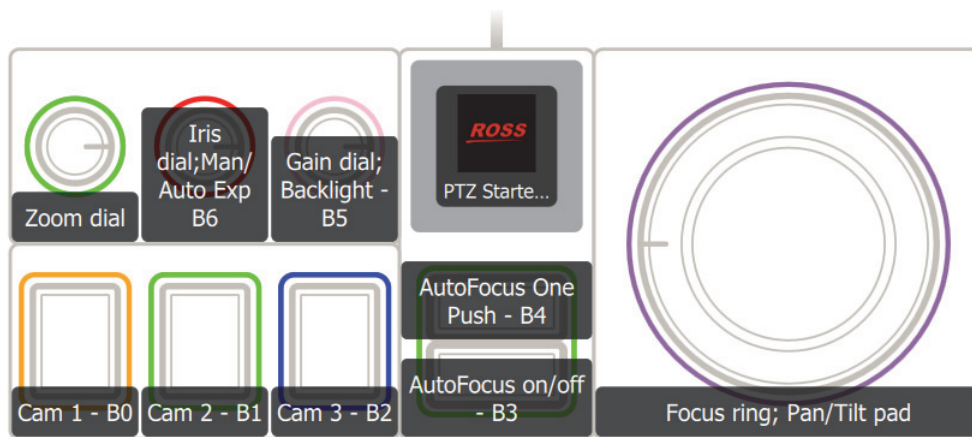
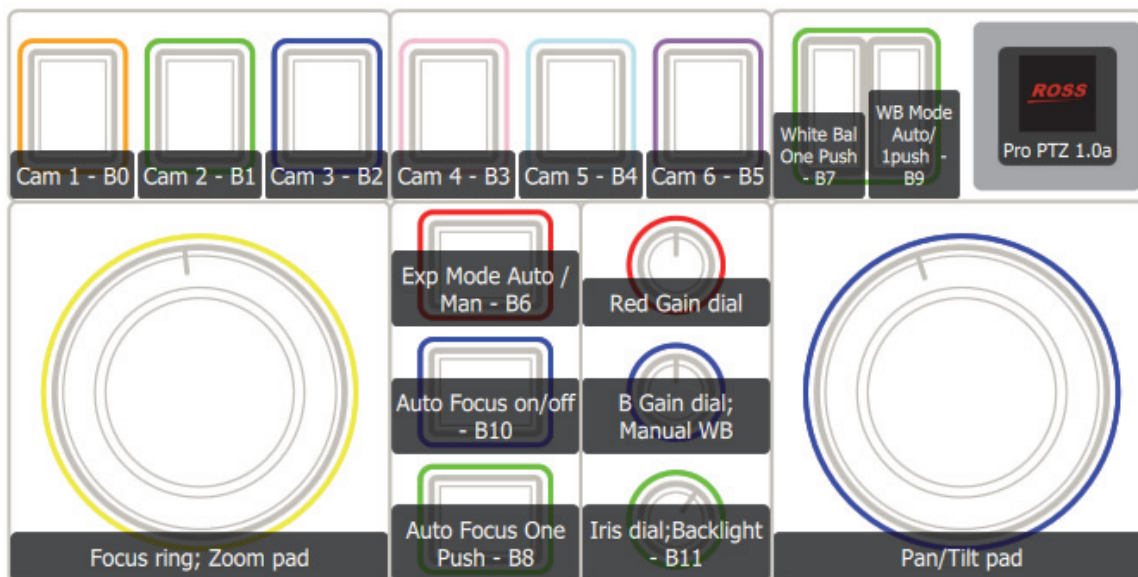
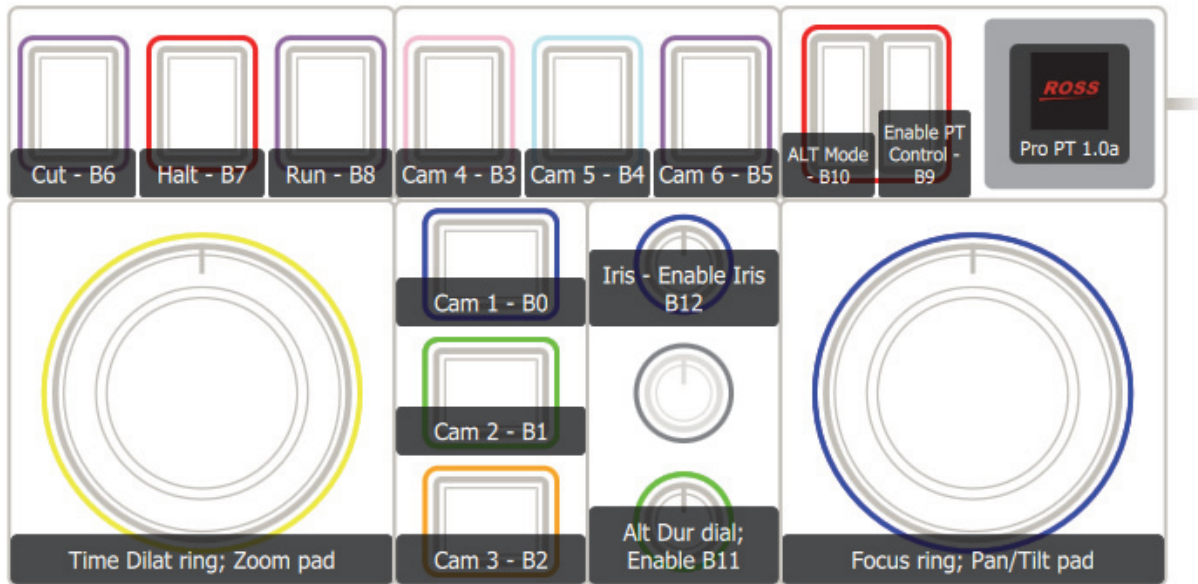

Figure 29 - Monogram Creator Layout — PTZ Starter Package Controlling PTZ Cameras
Figure 30 - Monogram Creator Layout — PTZ Pro Package Controlling PTZ Cameras
Figure 31 - Monogram Creator Layout — PTZ Pro Package Controlling PT Heads
6. If the controls still do not appear in the expected positions as shown in Figure 29 (for PTZ Starter), Figure 30 (for PTZ Pro for PTZ Cameras), or Figure 31 (for PTZ Pro controlling PT Heads), do the following: